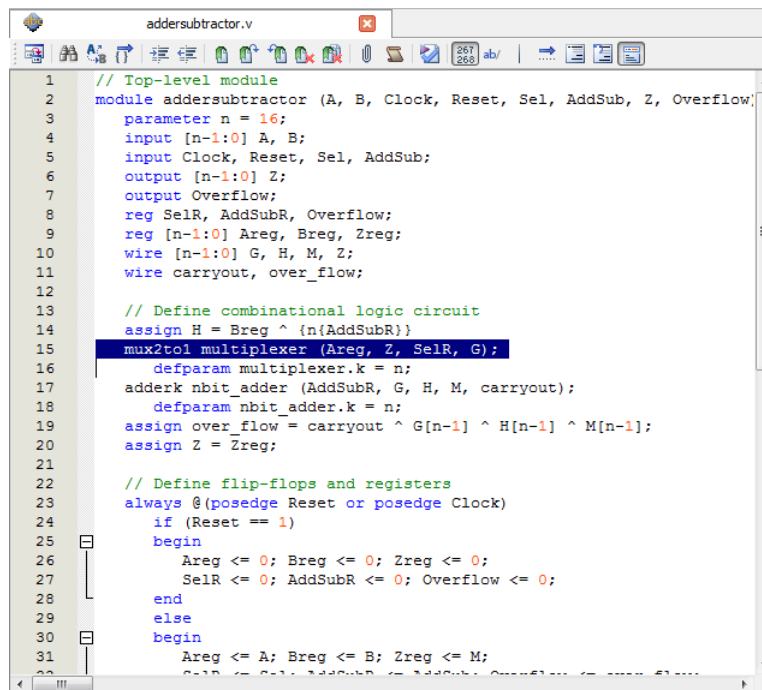

Figure 27: Identifying the location of the error.
- Double-click on the first error message, which states that there is a Verilog syntax error. The Quartus® II software responds by opening the *addersubtractor.v* file and highlighting the statement affected by the error, as shown in Figure 27. Correct the error and recompile the design.